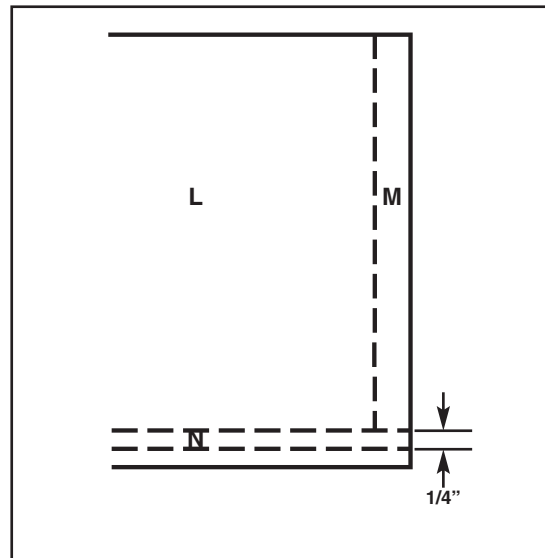

Figure 8
- Insert drawer bottom (N) into dados in drawer sides (L) and attach to boards (M) using 1 1/4" finish nails. Refer to Figure 8 and Isometric.